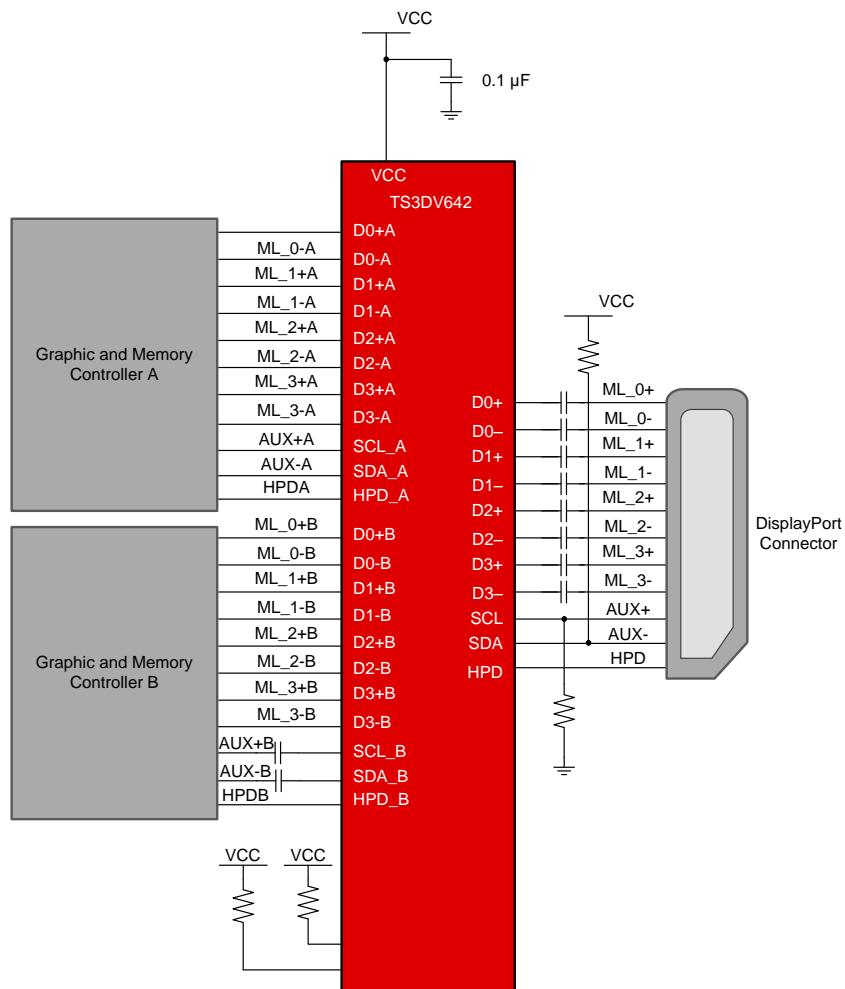
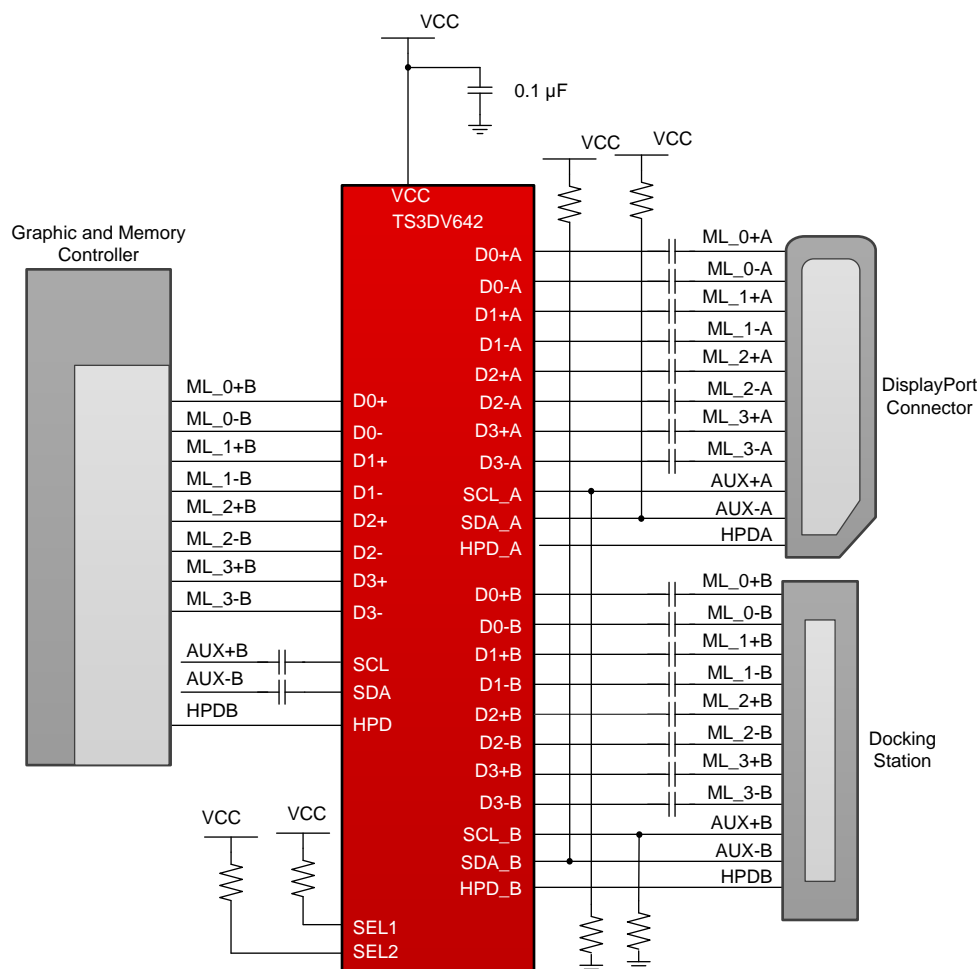

Figure 21. Display Port Schematic
Figure 24. Docking Application Schematic
TS3DV642 can be used for two typical DisplayPort applications. Figure 21 describes a DisplayPort (DP) application where TS3DV642 is used to switch between two different graphic & memory controllers on a single DP connector. Figure 24 shows a docking application where TS3DV642 is used to switch signals from a single graphic and memory controller to a display port and docking station connector. Note that the TS3DV642 is not designed for passing signals with negative swings; the high-speed signals need to be properly DC biased (usually ~1 V from the graphic controller side) before being passed to the TS3DV642.